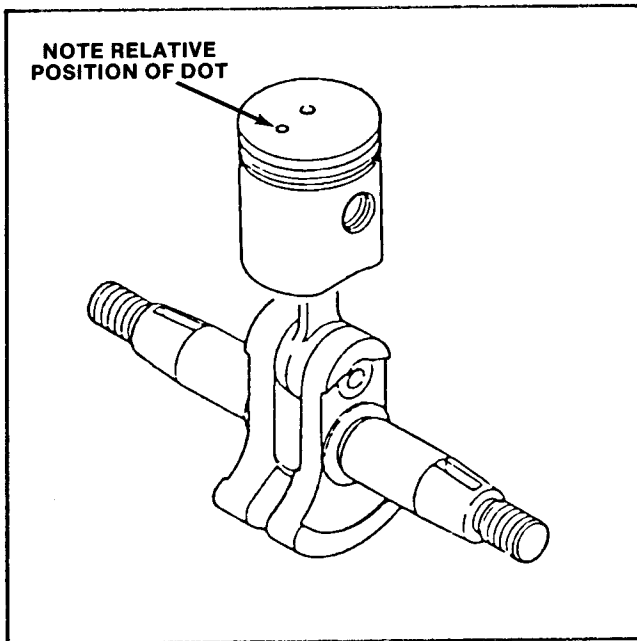

Figure 99
11. Carefully push out the piston pin and lift the piston from the connecting rod. The connecting rod cannot be removed from the crankshaft. Note the position of the dot on the head of the piston. Reinstall the piston with the dot in the same direction. See Figure 99